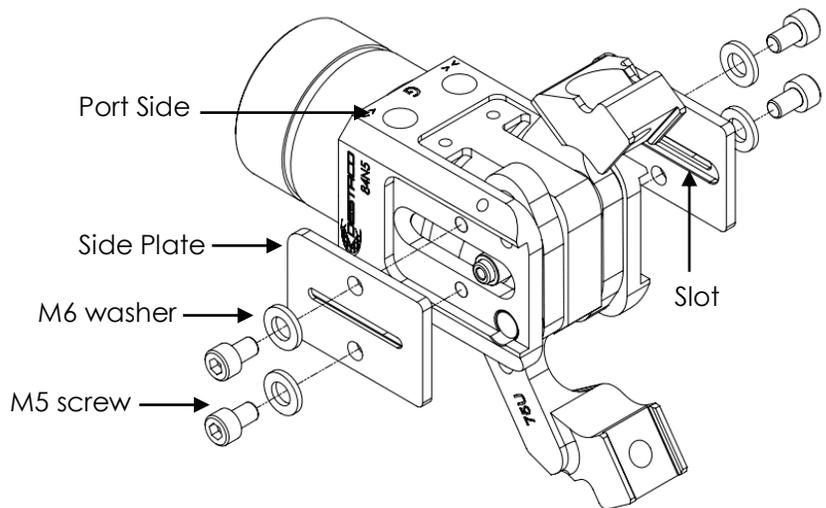

Fig.8
3. Remove the two side plates in the body of the gripper by unscrewing the M5 screw using 4mm Allen key (see Fig.8).